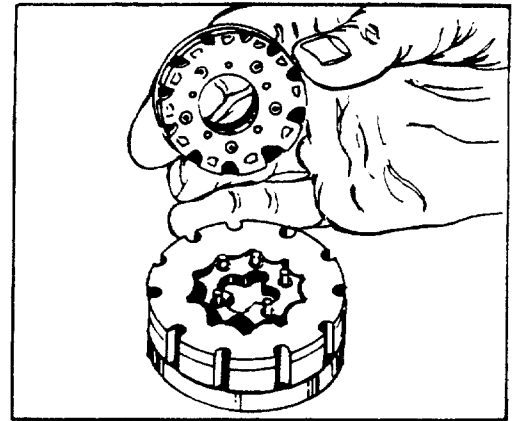

FIGURE 26.
- remove commutator** 31. Remove the commutator (22) from the rotor (24). See figure 26.